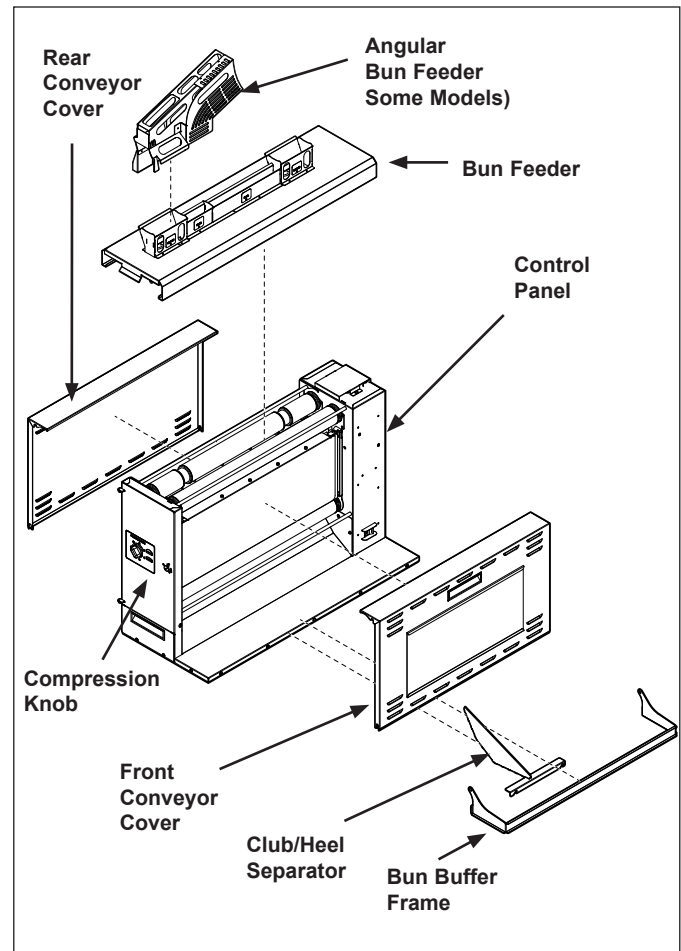

Figure 1. HEBT-5V Components
2. Attach the Bun Feeder, Angular Bun Feeder (if present), Bun Buffer Frame, and Crown\Heel Separator accessories (Figure 1).
2. See Figure 1. Press and hold the **MENU** button for five seconds.
1. With the toaster on, press and hold both the **LEFT** and **RIGHT** arrow buttons for 5 seconds until **“Factory Settings Restored”** appears on the display (Figure 1).